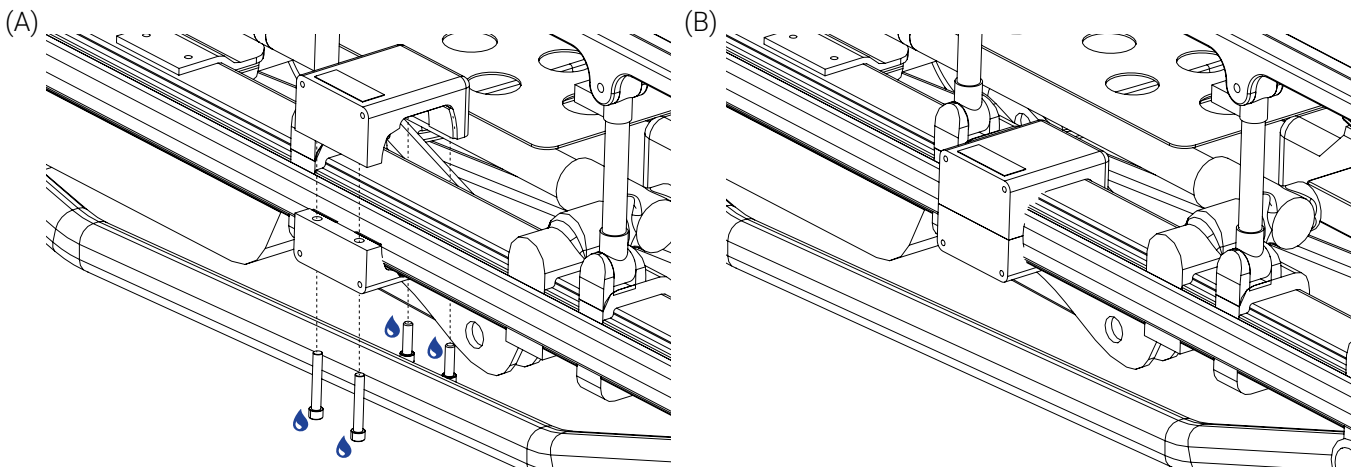

Figure 29: Installing the Flex Seqr Stretcher Side on the lateral frame of the stretcher
3. Unscrew the four (4) screws of the clamp block to separate it into two (2) parts using a 3/16 in. hex key.
- Place the top part of the clamp block over the lateral frame of the stretcher and the bottom part of the clamp block under the frame, then align and partially tighten two (2) $\frac{1}{4}$ -20 in. X $\frac{7}{8}$ in. socket head screws in the screw holes located towards the inside of the stretcher frame and two (2) $\frac{1}{4}$ -20 in. X $1\frac{5}{8}$ in. socket head screws in the screw holes located towards the outside of the stretcher frame coated with medium strength thread lock adhesive, using a $\frac{3}{16}$ in. hex key (Figure 29).